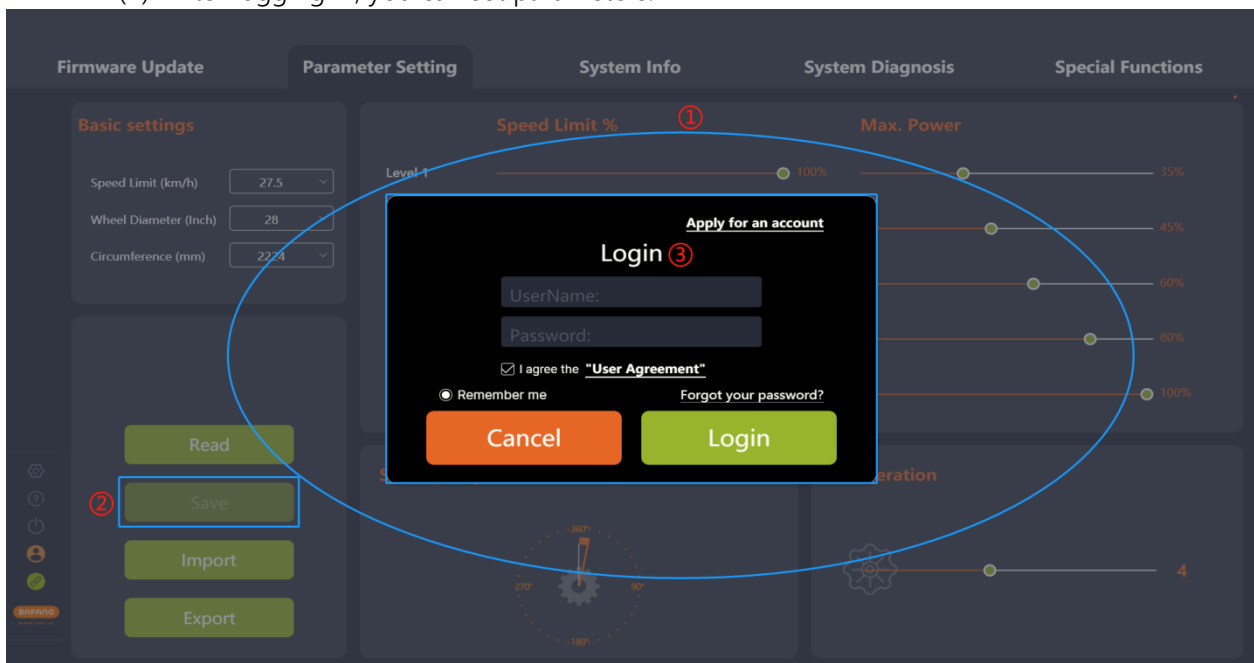

Fig. 5-5 Login
- (1) After reading successfully, adjust the parameters on the right side by pulling the slider.
- (2) After adjusting, click the "Save" icon to save the new parameters to the controller.
- (3) If you are not logged in, the "Login" interface will pop up, prompting you to log in (Fig.5-5).
- (4) After logging in, you can set parameters.